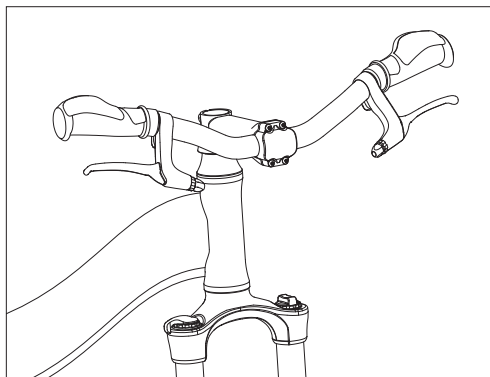
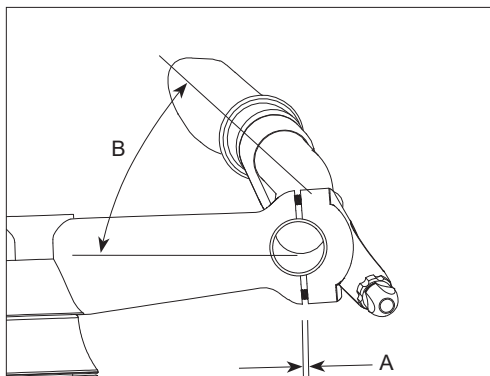

Fig. 17: Tighten screws.
Fig. 18: Set at comfortable angle.
3. Tighten with the provided hex wrench (Fig. 17) to proper torque (page 49). Make sure that the gap between the stem is roughly the same on the top and bottom (Fig. 18, a), and the handlebars are at a comfortable riding angle (Fig. 18, b).